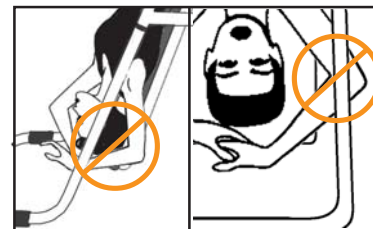

Figure 5
- TO RETURN UPRIGHT, press the Rotation Control Button in direction of your feet. Keep elbows clear of the A-frame when returning from the fully-inverted position in order to avoid catching your arm between the A-frame and the table while the table rotates (See Figure 5). Rest at the horizontal position for a moment prior to returning to starting position.